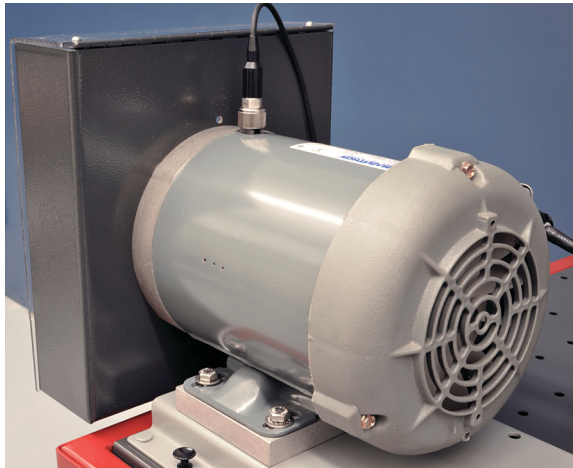

Figure 8. Mount the vibration transducer in the radial axis.
5. Fix the vibration transducer to the motor as shown in Figure 8.